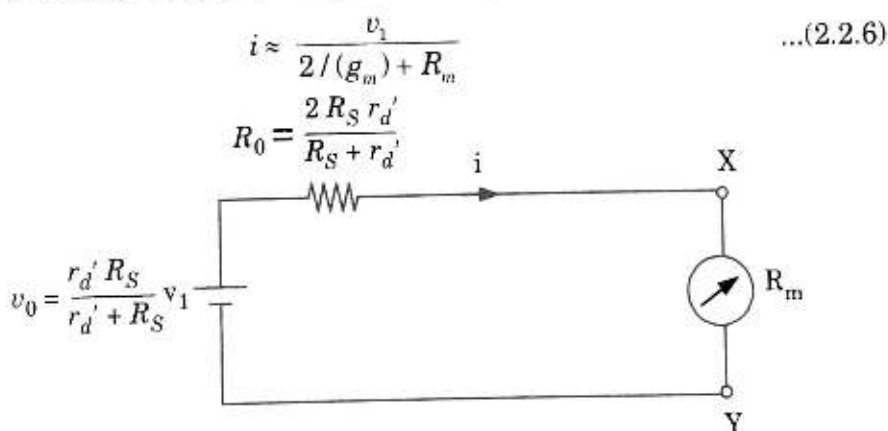

Fig. 2.2.2. Equivalent circuit of a source follower electronic voltmeter.
10. The circuit of Fig. 2.2.2 shows the Thevenin equivalent circuit with the ammeter connected between terminals X and Y.